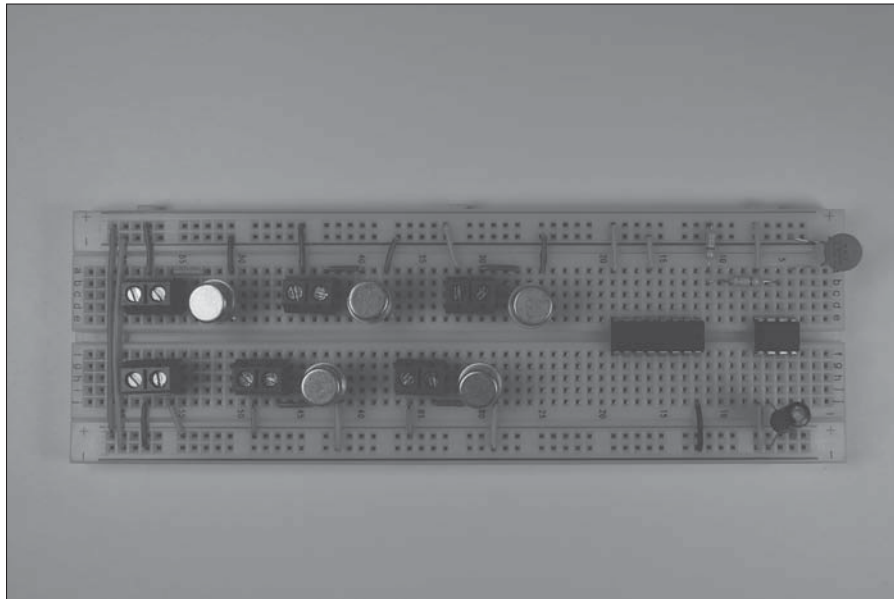

Figure 10-12: Connect the collector pin of the transistor to terminal blocks.
5. Insert wires to connect the collector pin of the transistors to the terminal blocks, as shown in Figure 10-12.